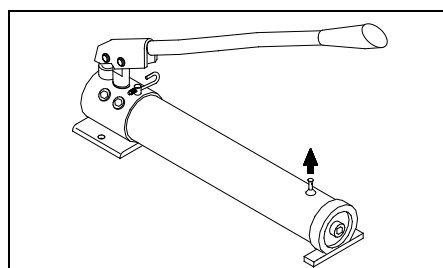

Figure 6 - Pull stem upward before use, press down when moving or storing pump.
- Pull vent plug stem upward before use, press down when moving or storing the pump (Fig. 6).